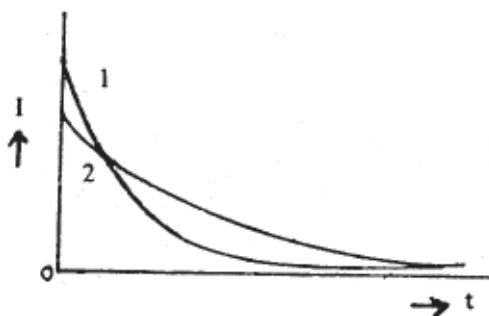

Fig. 25.4
- iv) Which graph in the Fig. 25.4 corresponds to larger time constant? Why?